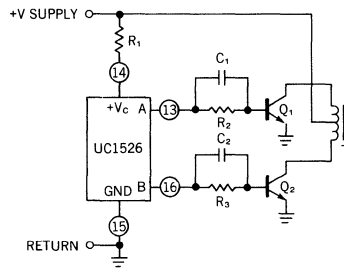

Figure 7. Push-Pull Configuration
1. With $R_D = 0\Omega$ (pin 11 shorted to ground) select values for R_T and C_T from Figure 7 to give the desired oscillator period. Remember that the frequency at each driver output is half the oscillator frequency, and the frequency at the $+V_C$ terminal is the same as the oscillator frequency.